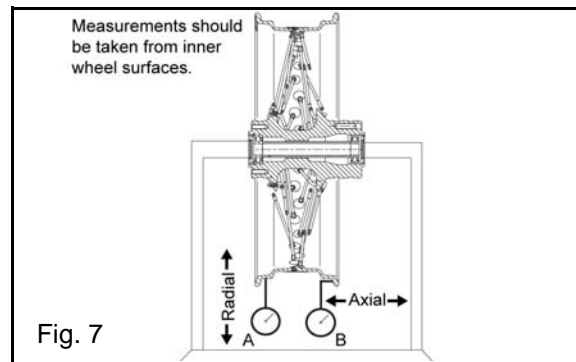

Fig. 7
6. Inspect wheel for axial runout, measured on the inner bead-sealing surface of wheel as shown in Fig. 7 (B).
7. Measure wheel for radial runout Fig. 7 (A).